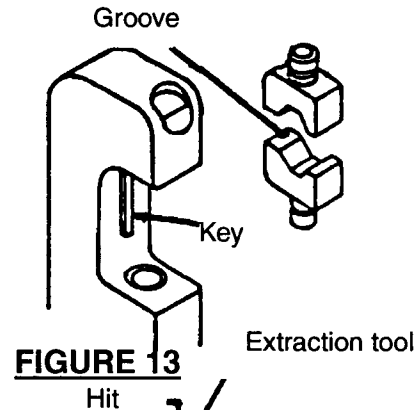

FIGURE 13
1. Open tool - position dies with grooves in key. Close the tool (fig. 13).